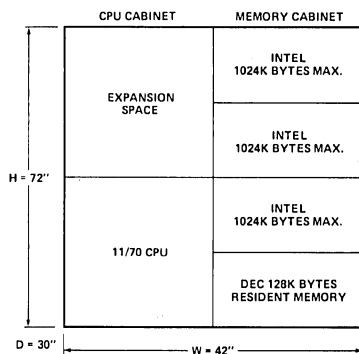

Figure 2. PDP-11/70 CPU Cabinet and In-1670 Add-On Memory Cabinet Dimensions
**Expandability** — Each unit is easily field upgradable to larger capacities with the addition of memory cards or a memory rack containing cards. A diagram showing CPU and memory cabinet dimensions is shown in Figure 2.